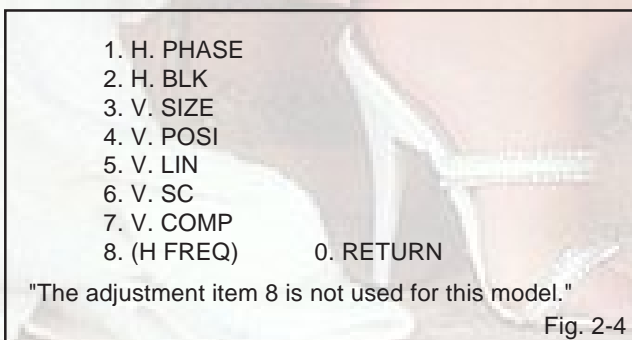

Fig. 2-4
3. Activate the adjustment mode display of **Fig. 1-1** and press the channel button **(1)** on the remote control. The **Fig. 2-4** appears on the display.